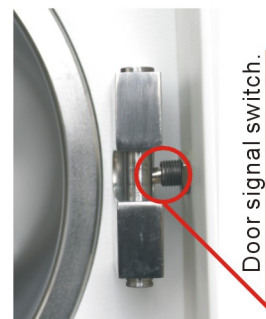

Fig.5.1-5
2、 when the operation display window show flashing “Ld” or “do” ,you need open the door, then close the door! If this step has been operated, the door is in a closed state, appeared in “Ld” or “do” flashing also.Please you check the door signal structure.Fig.5.1-5.